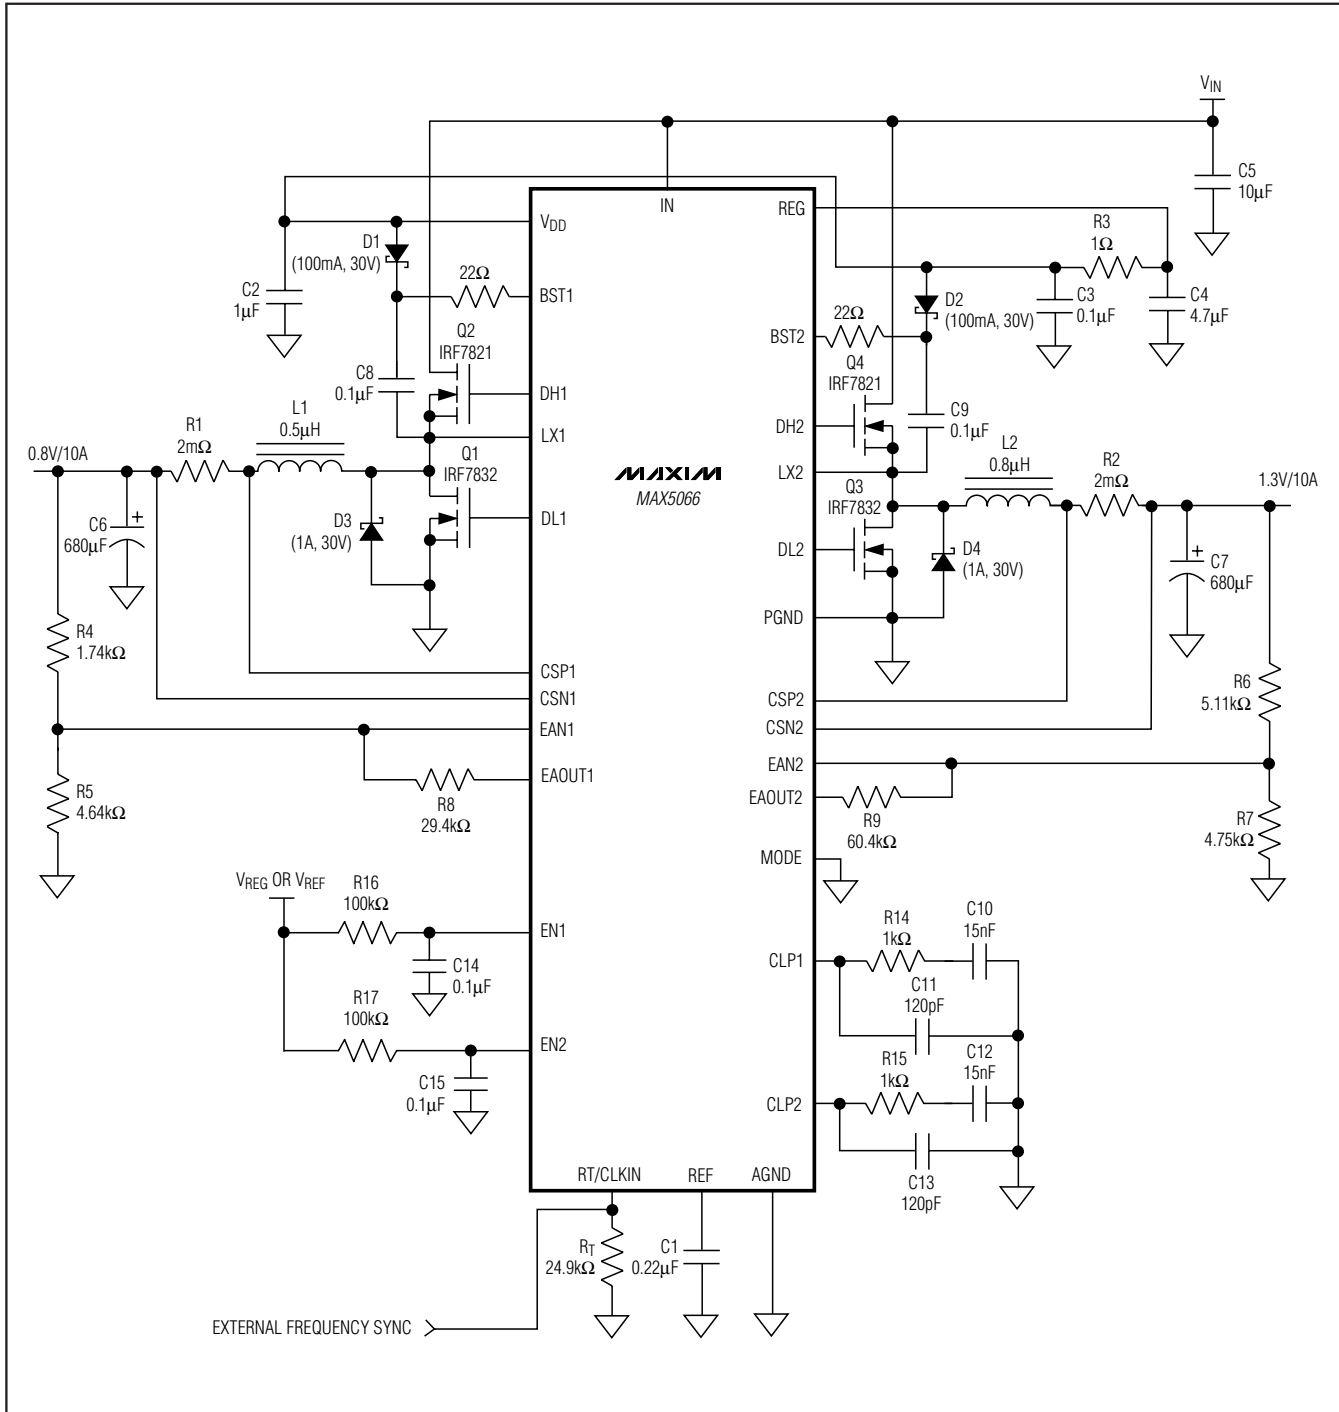

Figure 6. Dual-Output Buck Regulator
where IIN is the quiescent supply current into IN (4mA, typ), QGQ1, QGQ2, QGQ3, QGQ4 are the total gate charges of MOSFETs Q1 through Q4 at VGS = 5V (see Figure 6), and fSW is the switching frequency of each individual phase.
diodes D1 and D2 (see Figure 6). Connect a 0.1µF ceramic capacitor between BST\_ and LX\_.
Minimize the trace inductance from BST\_ and VDD to rectifier diodes, D1 and D2, and from BST\_ and LX\_ to the boost capacitors, C8 and C9 (see Figure 6). This is accomplished by using short, wide trace lengths.
The compensation network at the current-error amplifiers (CLP1 and CLP2) provides an inherent soft-start of the output voltage. It includes (R14 and C10) in parallel with C11 at CLP1 and (R15 and C12) in parallel with C13 at CLP2 (see Figure 6). The voltage at the current-error amplifier output limits the maximum current available to charge the output capacitors. The capacitor at CLP\_ in conjunction with the finite output-drive current of the current-error amplifier yields a finite rise time for the output current and thus the output voltage.
An internal oscillator generates the 180° out-of-phase clock signals required for both PWM modulators. The oscillator also generates the 2Vp-p voltage ramps necessary for the PWM comparators. The oscillator frequency can be set from 200kHz to 2MHz by an external resistor (RT) connected from RT/CLKIN to AGND (see Figure 6). The equation below shows the relationship between RT and the switching frequency:
output, voltage-regulating applications where the duty cycle is less than 50%, choose high-side MOSFETs (Q2 and Q4, Figure 6) with a moderate  $R_{DS(ON)}$  and a very low gate charge. Choose low-side MOSFETs (Q1 and Q3, Figure 6) with very low  $R_{DS(ON)}$  and moderate gate charge. The driver block also includes a logic circuit that provides an adaptive nonoverlap time (30ns typical) to
where  $I_{MAX}$  is the full load current of the regulator.  $V_{OUT}$  is the output voltage of the same regulator and  $C_{IN}$  is C5 in Figure 6. The ESR of the input capacitors wastes power from the input and heats up the capacitor. Reducing the ESR is important to maintain a high overall efficiency and in reducing the heating of the capacitors.
where  $I_{LOAD\_STEP}$  is the step in load current and  $t_{RESPONSE}$  is the response time of the controller. Controller response time depends on the control-loop bandwidth.  $C_{OUT}$  is C6 and C7 in Figure 6.
where ΔVOUT is the allowable drop in voltage from no load to full load. RF is R8 and R9, R1 is R4 and R6, R2 is R5 and R7 in Figure 6.
For stability of the current loop, the amplified inductor-current downslope at the negative input of the PWM comparator (CPWM1 and CPWM2) must not exceed the ramp slope at the comparator's positive input. This puts an upper limit on the current-error amplifier gain at the switching frequency. The inductor current downslope is given by VOUT/L where L is the value of the inductor (L1 and L2 in Figure 6) and VOUT is the output voltage. The amplified inductor current downslope at the negative input of the PWM comparator is given by:
where RSENSE is the current-sense resistor (R1 and R2 in Figure 6) and gM × RCF is the gain of the current-error amplifier (CEA1) at the switching frequency. The slope of the ramp at the positive input of the PWM comparator is 2V × fSW. Use the following equation to calculate the maximum value of RCF (R14 or R15 in Figure 6).
where CCF is C10 and C12 in Figure 6.
where  $C_{\text{CFF}}$  is C11 and C13 in Figure 6.